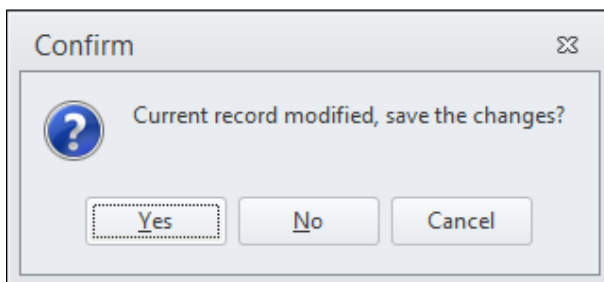

Figure 73 Link class tax modification
- 4) Close the Tax by Link class table by clicking on the “X” icon in the top right corner and click “Yes” to the question, see Figure 73.